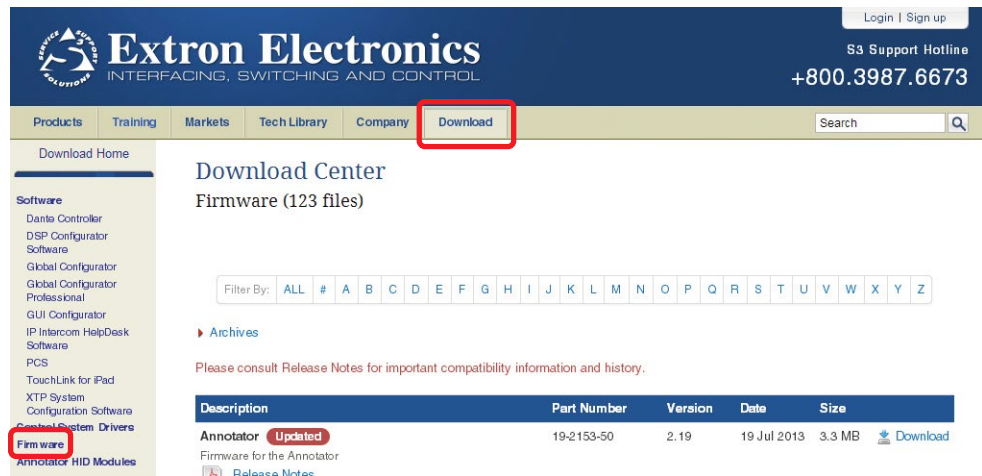

Figure 23. Extron Web Page — Download Center
- b. Select the **Firmware** option (see figure 23).